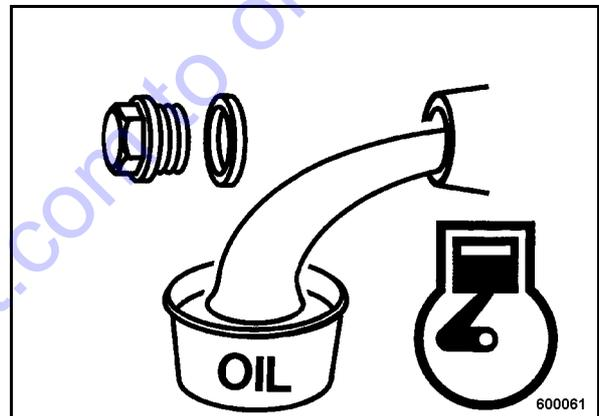

Fig. 38
- Catch running out oil (Fig. 38).